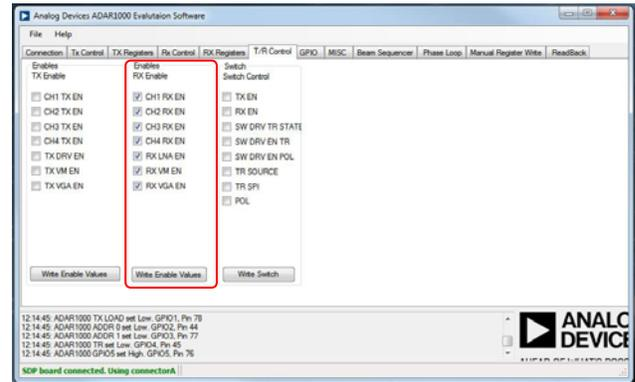

Figure 15. Enabling Receive Channels
1. Click the **T/R Control** tab (see Figure 15).